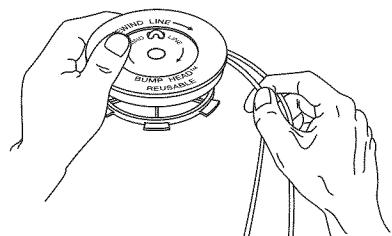

Fig. 18
- Wind the lines in tight even layers onto the reel (Fig. 18). Wind the line in the direction indicated on the inner reel. Place an index finger between the two lines to stop the lines from overlapping. Do not overlap the ends of the line. Proceed to step 12.